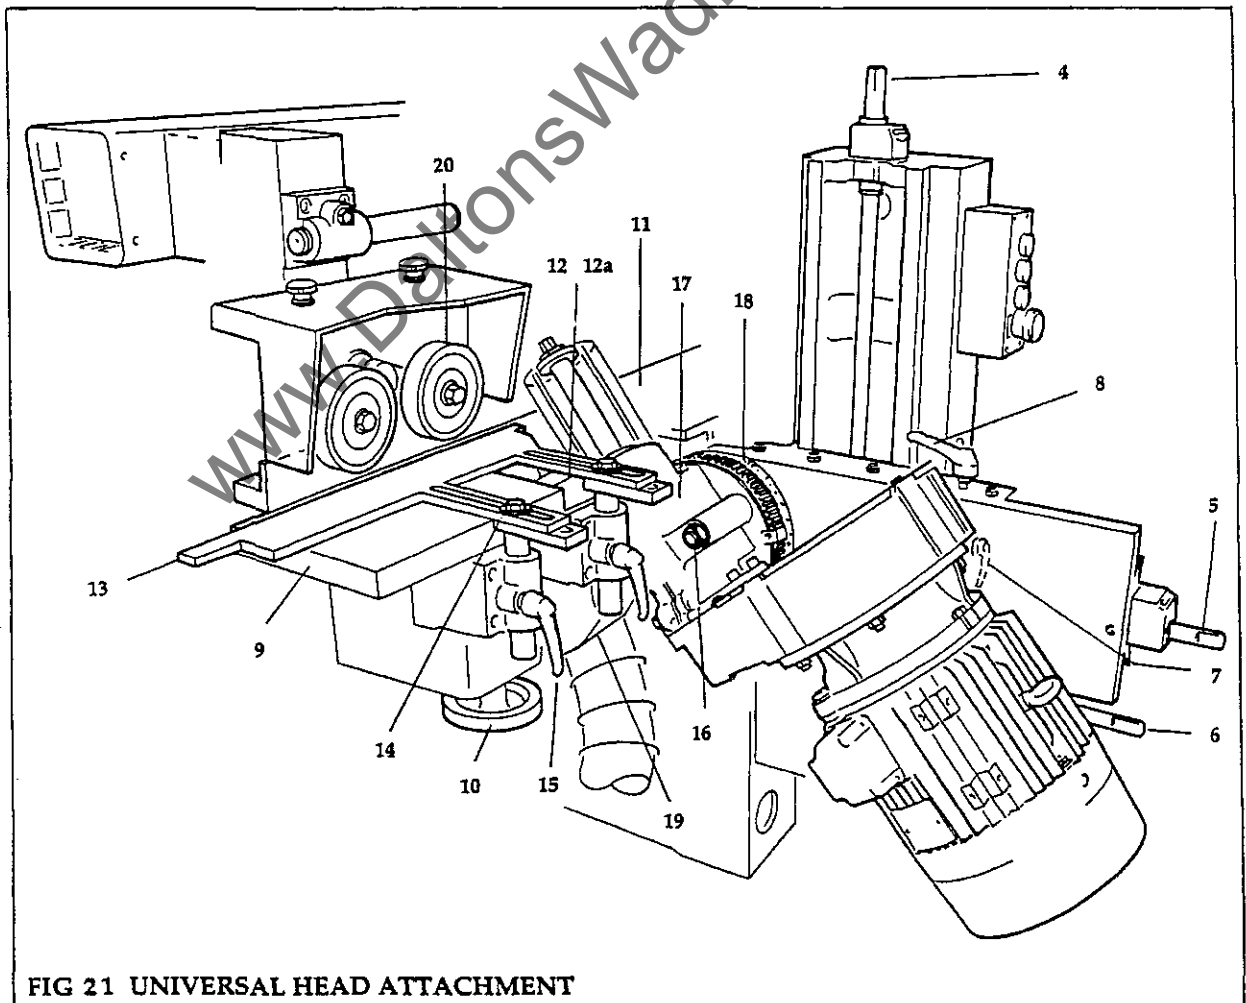

FIG 21 UNIVERSAL HEAD ATTACHMENT
#### Universal Head Modes (fig 21, 22, 23)
- (5) Set guide (13) for width and height using setscrews (14) and locking handles (15) (see fig 21)